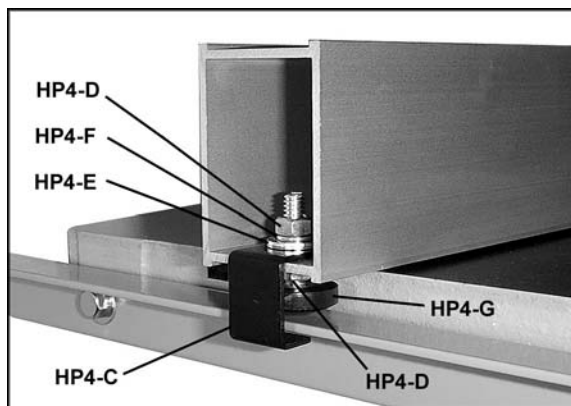

Figure 29
- At the rear of the fence, thread a *1/4" hex nut* (HP4-D, Figure 29) onto the *sliding pad* (HP4-G) and insert the sliding pad through the fence and *rear hook* (HP4-C). Secure in place using a *1/4" flat washer* (HP4-E), *1/4" lock washer* (HP4-F) and a *1/4" hex nut* (HP4-D). The rear hook should be adjusted so that it overlaps the rear rail by approximately 1/8".
Refer to Figures 29 and 30.
4. Adjust the height of the sliding pad at the rear of the fence (Figure 29) if further adjustment is needed to even the gap along the length of the fence.